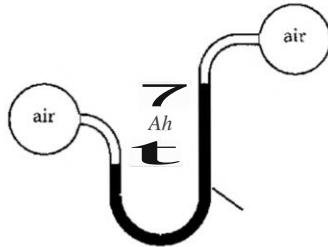

FIGURE P2.24
24. A U-tube manometer is used to measure the pressure difference between two air chambers, as shown in Figure P2.24. If the reading Ah is 6 inches, determine the pressure difference.